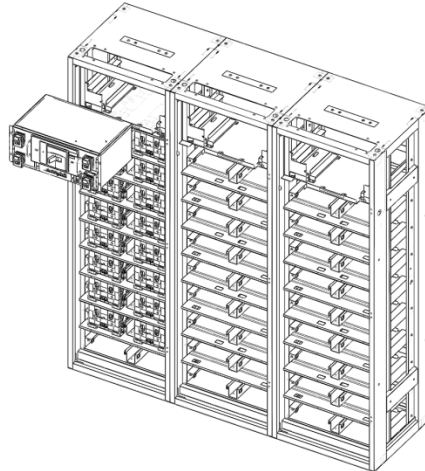

Figure 2-15: Inserting Switchgear
1. Insert the Switchgear Assembly through the front of the rack as shown in Figure 2-15: Inserting Switchgear